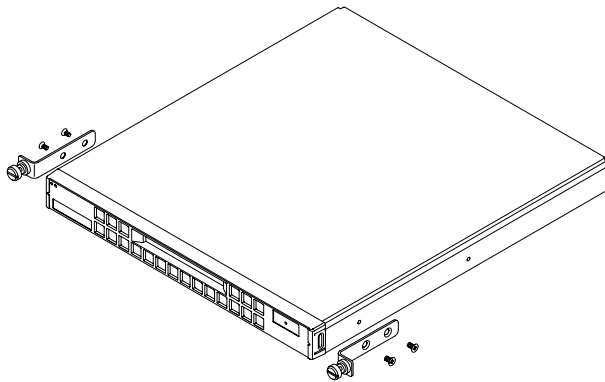

FIGURE 4-3 Removing the Rack Mount Brackets
- 3. Remove the rack mount brackets from the side of the system (see FIGURE 4-3).**